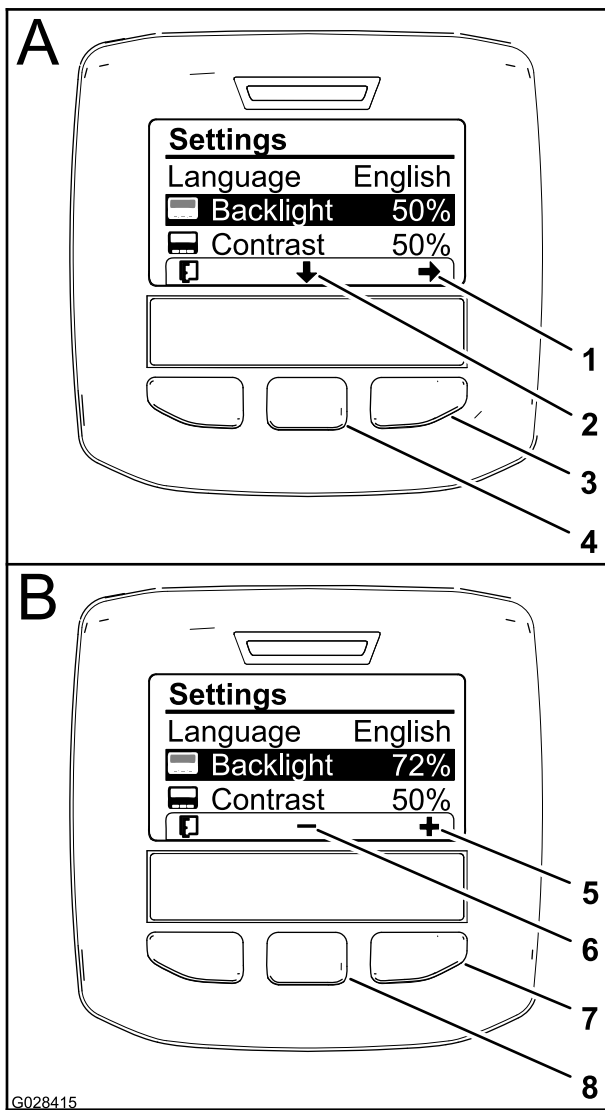

Figure 64
2. To adjust the backlight level of the display, press the center selection button (the button below the down arrow icon in the display) to move the selected option down to the Backlight setting (Figure 64).
- Press the right selection button to display the value adjustment context (Figure 64).
- Use the center selection button and right selection button to change the brightness level of the display (Figure 64).
selection, exit the Backlight menu, and return to the Settings menu (Figure 64).
- To adjust the contrast level of the display, press the center selection button (the button below the down arrow icon in the display) to move the selected option down to the Contrast setting (Figure 64).
- Press the left selection button (the button below the list icon in the display) to save your selection, exit the Contrast menu, and return to the Settings menu (Figure 64).
- Press the left selection button to exit the Settings menu and return to the Main Menu (Figure 62 and Figure 64).
- Press the left selection button to return to the Home screen (Figure 64).